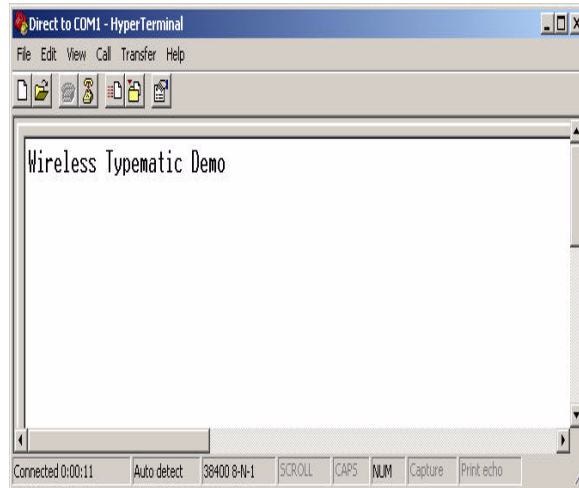

Figure 25. Wireless UART Reset UART Message
4. Reset both boards. The application’s Out of Reset text echoes a welcome message as shown in Figure 25.